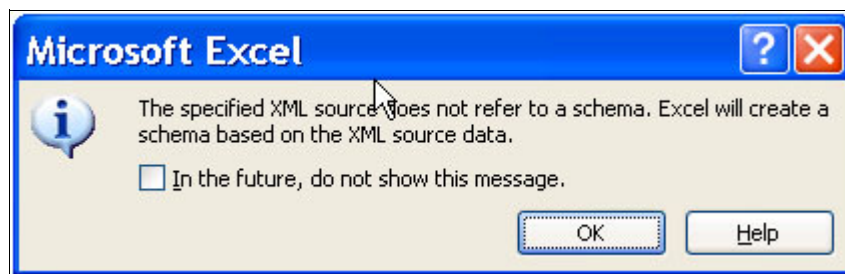

Figure 5 No XML schema is required
3. There is no XML schema that is associated with this XML file. As seen in Figure 5, Excel prompts you to ensure that it can create a schema that is based on the source data. Click **OK** and continue.